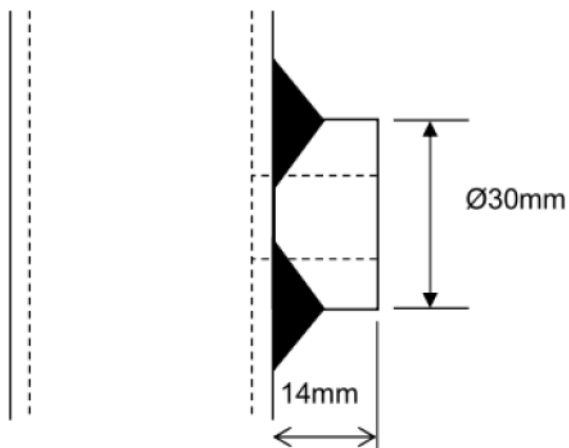

Figure 1: Side view of stub
- The weld shall be a fillet weld of the appropriate size (leg length and throat thickness). The fillet weld and prep angle should be such that when the ID is drilled that it is a full penetration weld and that the root is removed. (See Figure 1 for illustrative purposes only)